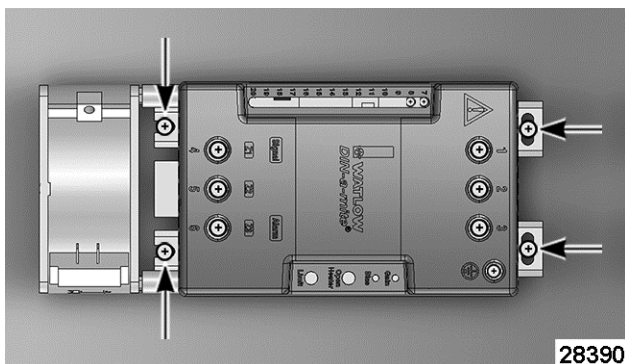

Fig. 42
5. Remove screws Fig. 42 (qty. 4) securing solid state contactor to mounting plate. The left screws are easily accessible through the space between the cooling fan and solid state contactor.